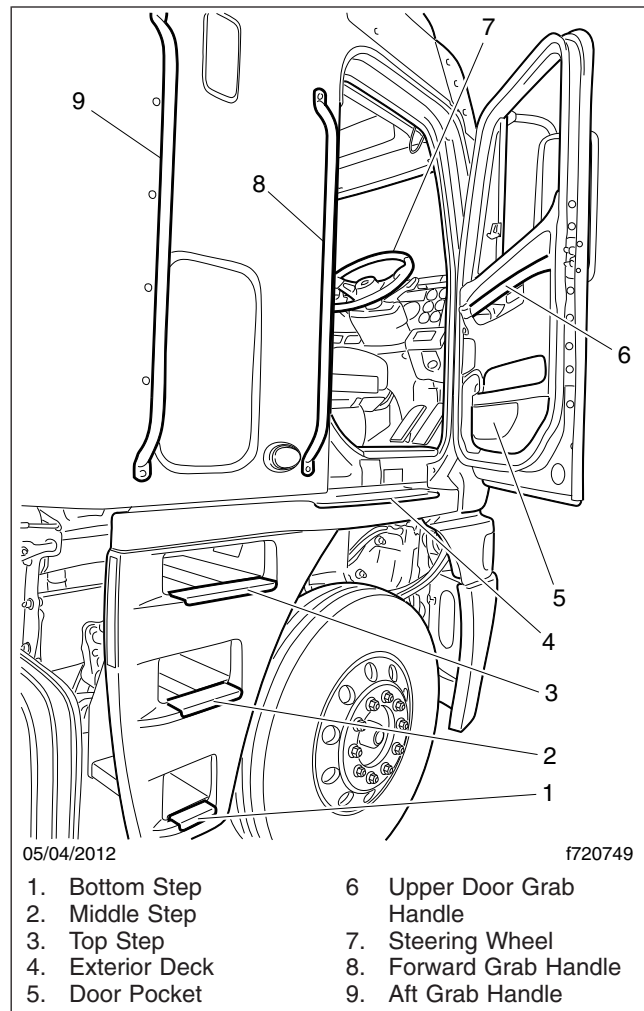

Fig. 2.4, Fixed Steps and Grab Handles, Right Side (RHD shown)
2. Grasp the aft sidewall grab handle with your left hand and the forward grab handle with your right hand. See Fig. 2.4.